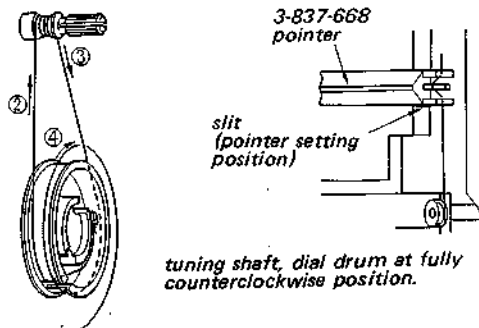

Fig. 2-12.
Note: Pass through the dial cord at step ④ between the two cords of steps ② and ③ as shown in Fig. 2-12.
2. Set the pointer to the slit as shown in Fig. 2-12.